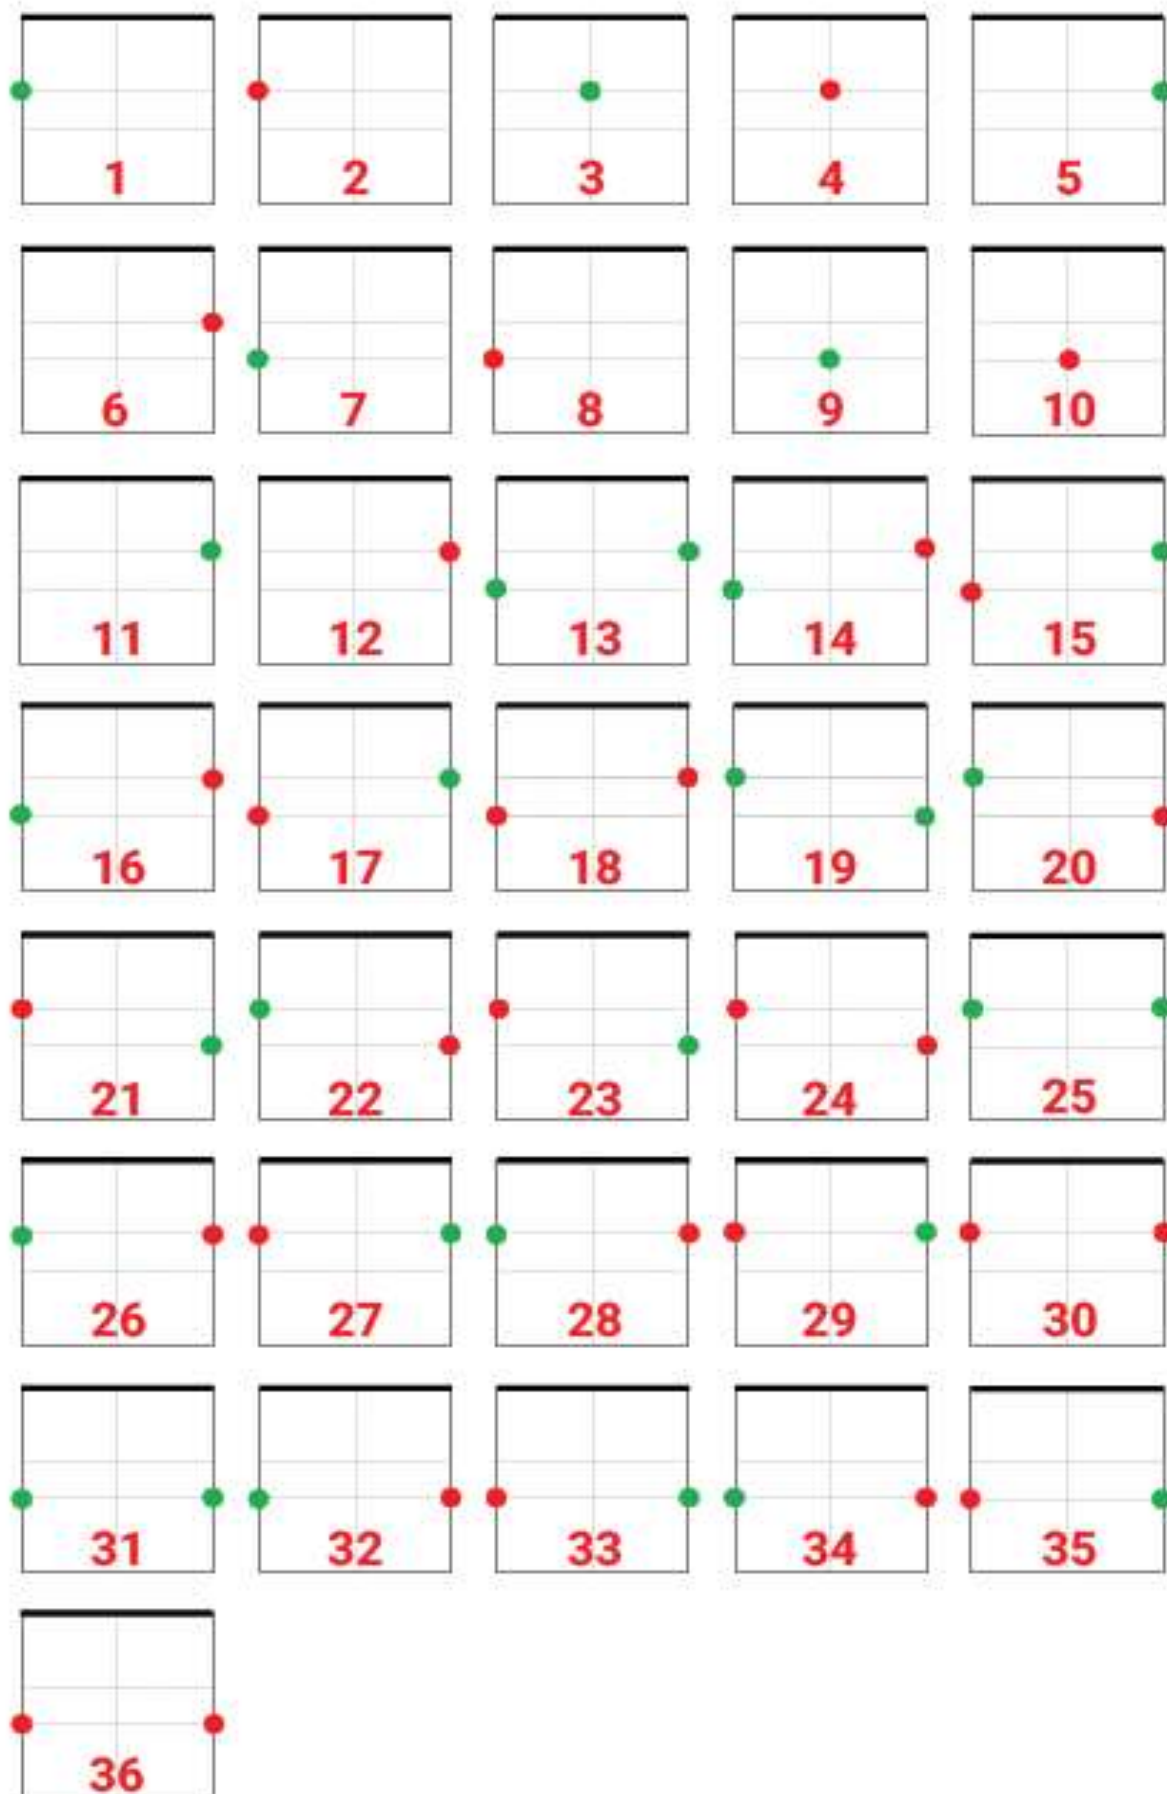

Figure 11: 36 cards with position of traffic signs within a section
3. Get 36 cards as on the figure 11 and remove the card 9 or 10 from the set depending on the colour of the sign chosen on the previous step: if the green sign was chosen, remove the 9th card; if the red sign was chosen, remove the 10th card. Put 35 cards into a non-transparent box or bag. Take one card from the box – it will determine locations of the traffic signs in the straightforward section next (considered clockwise) after the section determined in the previous step. The thick black line on the card means the inner border of the game field. The card must not be returned to the box. Take again a second card – it will determine locations of the traffic signs in the next straightforward section. Repeat these actions for the remaining straightforward sections.